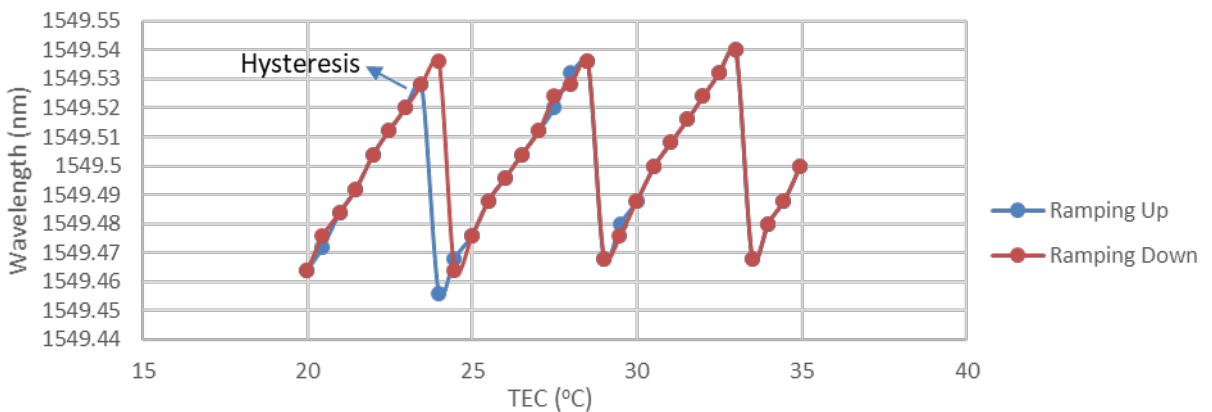

Figure 1. Wavelength vs. TEC temperature characteristics with very small hysteresis region.
1.1 The DL-CLS product when properly applied is mode-hop-free. DL-CLS101B-S1550 laser requires specific setup to achieve best performance. Please review this application note, the datasheet, and the Out Going Report (shipped along with the unit) before setting up and testing the laser. Each laser has a recommended TEC temperature* set point which is indicated in the OGR. The recommended TEC temperature has to be maintained to provide optimal performance. Typical wavelength vs. TEC temperature characteristics at case temperature equal to 25°C are presented in Figure 1.
1.2 Figure 1 shows a very small hysteresis in wavelength vs. laser temperature characteristics, when compared to other manufacturers, who have large hysteresis. During initial setting, some spectral distortions may be observed (e.g. double peak or low SMSR). This is an indication that the temperature is outside of the recommended range. This initial setting has to be done manually using this application note and the OGR as a guideline. Alternatively, the customer can also purchase DenseLight’s BF9 product series to have this laser operate at its best performance. As long as the TEC is tuned to the recommended value, a single longitudinal mode spectrum with excellent power and wavelength stability can be achieved when the laser is biased, as can be seen in the next section.